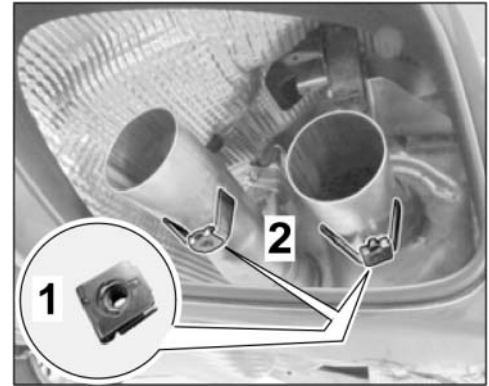

Figure 26
- 3.4.1 Install new speed nut M6 x 19.5 x 18 – VW602 49 (2 x) on holders on exhaust pipes of new rear silencers (left/right ⇒ *Figure 26*).